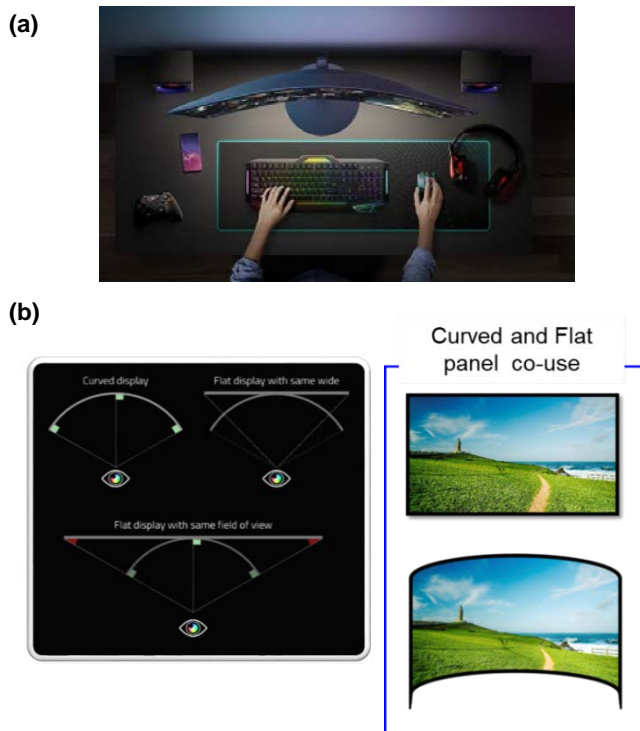

Figure 1 (a) Curved computer/gamming monitor, and (b) great viewing sense
Recently, the curved LCDs develop rapidly, it can provide many benefits in better viewing sense [1]. In Fig.1, benefit from the great viewing, curved LCDs are integrated into various products, including TVs, monitors (MNT), and automotive displays, leading to the increasing demands of curved LCDs in the market. Therefore, the curved LCDs attract increasing attention to the development of relative technologies. Although the AMOLED is also a good candidate for curved displays, in certain application areas, the curved LCD is more competitive due to its low cost and mature manufacturing process [2]. To provide various viewing styles and human interfaces, different curvatures are designed. The curvature of curved TVs [3] and computer/gaming MNTs are usually 1000~1800 mm, wearable devices and mobile devices need a small curvature for R 50. In automotive application the curvature stays between R 50 and R1000. In consideration of cost, functionality, and manipulability, different substrates are applied for the curved LCDs, such as metal foil, ultra-thin glass, and plastic substrate, but the ultra-thin glass and colorless polyimide (PI) are the most popular substrates for the curved display due to high transmittance, good thermal stability, and chemical resistivity. In some applications with large curvature, the ultra-thin glass substrate is preferred due to its low cost, and high production and high yield based on ultra-thin glass substrate. However, the curved LCDs based on ultra-thin glass substrates suffer from an issue of uneven brightness among the vertical-alignment LCD panels. In this work, we